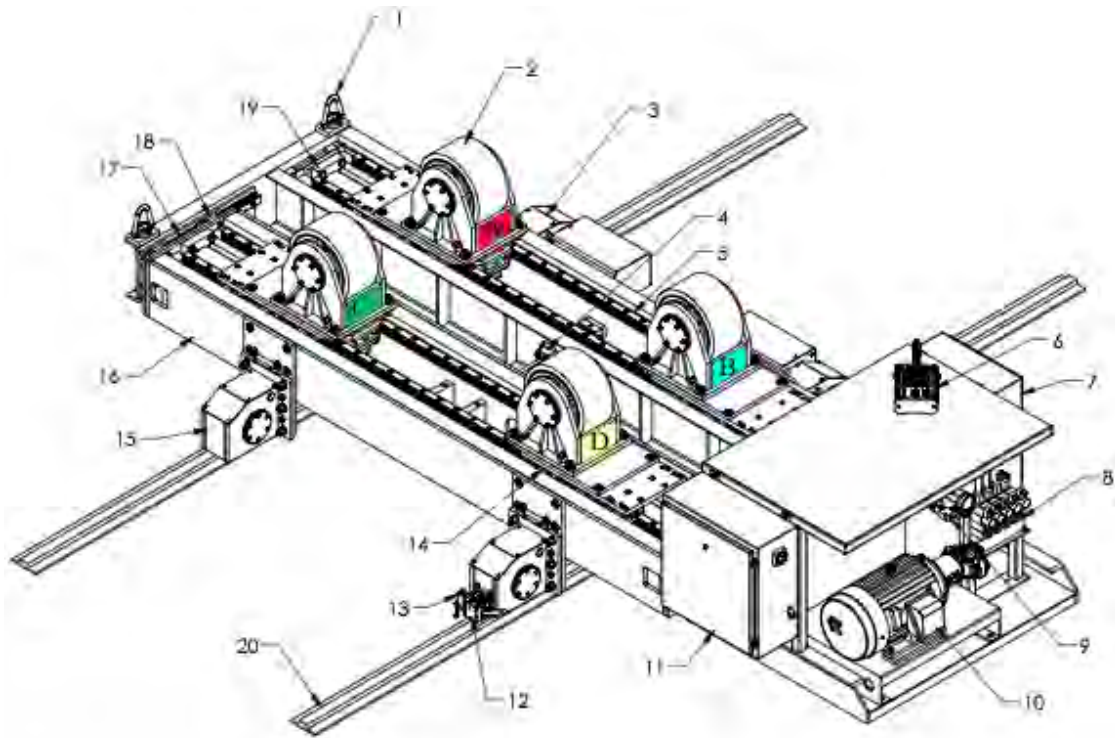
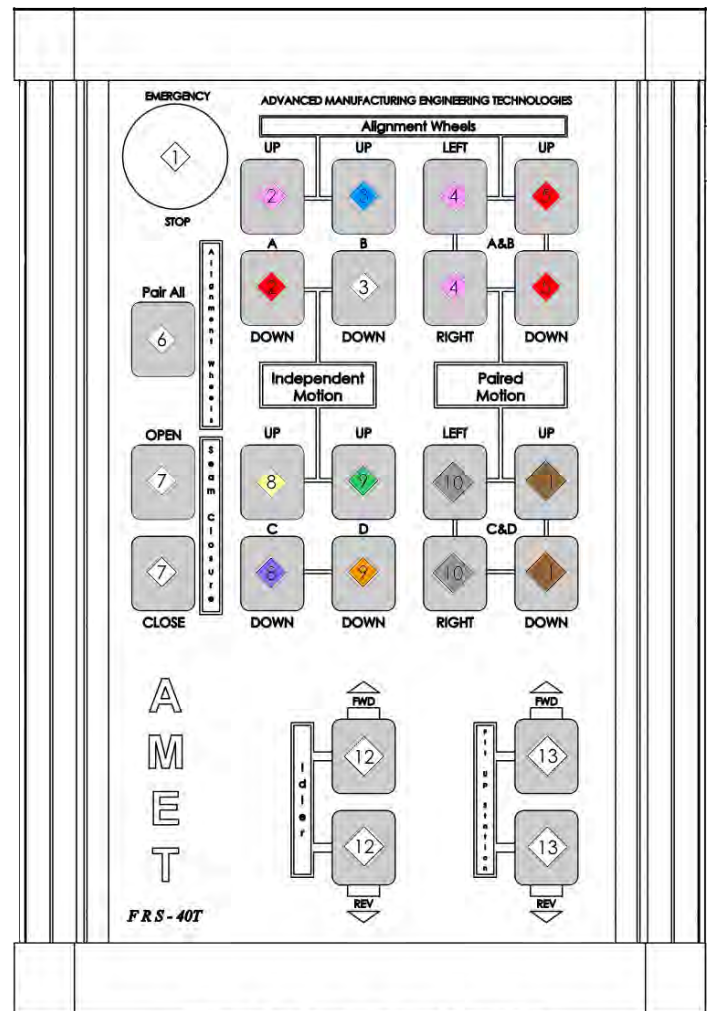

Fig 3.1 Major Components
Fig 5.2 Fit-Up Pendant (FRS-40T)
The Support Wheels (Fig 3.1 Item 2) are located on both sides of each half of the Fit-Up Station. They support and allow rotation of the part being welded. Three materials are available for the external finish of the Support Wheels. The standard coating is Polyurethane, but rubber and bare steel are also available upon request.
The Transverse Drives (Fig 3.1 Item 3) have powered motors that propel the Fit-Up Station along the Transverse Track to accommodate various part lengths. They may also be used for transporting the weld piece closer to and farther from the weld head.
The Hydraulic Cylinder (Fig 3.1 Item 4) moves the C and D half of the Fit-Up Station closer to or farther from the A and B half. This allows the two loaded weld cans to be butted up together.
The Linear Rails (Fig 3.1 Item 5) make up the track upon which the support wheels travel. The support wheels can move either closer together, farther apart, or paired together.
The Fit-Up Pendant (Fig 3.1 Item 6) is the control center of the Fit-Up Station. All movement is managed from this pendant. Instructions for use are in Section 5.
The Hydraulic Control Box (Fig 3.1 Item 7) is the point that all hydraulic logic passes. The user should not have to access this box unless catastrophic failure has occurred. At this point, entrance must be done with assistance from an AMET representative.
The Hydraulic Manifold Assembly (Fig 3.1 Item 8) regulates the hydraulic pressure going through the system.
The Hydraulic Solenoid Valves (Fig 3.1 Item 9) engage each piston in the hydraulic system. Every piston throughout the Fit-Up Station is controlled with one of these solenoid valves.
The Hydraulic Power Unit (Fig 3.1 Item 10) pumps the hydraulic fluid throughout the hydraulic system in the Fit-Up Station.
The Power Distribution Enclosure (Fig 3.1 Item 11) includes all the wiring for the electrical system including the fuses.
The Travel Lock Brake (Fig 3.1 Item 12) ensures that the Transverse Cart will remain stationary. In order to move the Cart along the Transverse track the Brake must be released.
The Limit Switch (Fig 3.1 Item 13) is to prevent collision with Turning Rolls that may be on the same Transverse track. When the Limit Switch is engaged the Transverse Drives stop movement.
The Linear Bearings (Fig 3.1 Item 14) allow the Support Wheels to glide smoothly on the Linear Rails.
The Transverse Wheels (Fig 3.1 Item 15) provide support opposite the Transverse Drives to allow the Fit-Up Station to travel along the Transverse Track.
The Transverse Cart (Fig 3.1 Item 16) refers to the entire Fit-Up Station. The Cart moves along the Transverse Track in order to accommodate various lengths of parts, and to allow transportation of weld parts while they are loaded on the Cart and another turning roll.
The Linear Rail (Fig 3.1 Item 17) makes up the track that the C and D portion of the Fit-Up Station travels on.
The Linear Bearings (Fig 3.1 Item 18) are located in the Linear Rail and allow for a smooth travel for the C and D portion of the Fit-Up Station.
The Hydraulic Cylinder (Fig 3.1 Item 19) extends and retracts the Support Wheel it is attached to in order to bring the Support Wheels closer together or farther apart or move them in paired motion.
The Transverse Track (Fig 3.1 Item 20) makes up the path that the Fit-Up Station can move laterally upon.
Place the hooks of heavy-duty straps on each of the four (4) Lift Rings (Fig 3.1 Item 1). Make sure the load is balanced when lifting!
The setscrews on the Hydraulic Manifold Assembly (Fig 3.1 Item 8) control the Support Wheel speed. Extend Speed is controlled from the front setscrew and Retract Speed is controlled from the setscrew on the back of the manifold assembly.
By using the Independent Motion buttons (Fig 5.2 Items 2,3,8,9) only the Support Wheel labeled will move. For example: If button 5.2. Item 2.UP is pressed Support Wheel A (Fig 3.1 Item A) will travel toward the center of the Fit-Up Station, until the button is released, to bring the can up.
Paired Motion moves both Support Wheels on each half at the same time in the designated direction. For example: If Button 5.2 Item 10.LEFT is pressed Support Wheels C and D (Fig 3.1 Items C & D) will both travel left at the same rate until the button is released.
All movement on the Fit-Up Station is controlled with the Fit-Up Pendant (Fig 5.2).
The E-Stop Button (Fig 5.2 Item 1) immediately cuts power to all motors to stop movement and avoid damage to persons
The Pair All button (Fig 5.2 Item 6) brings all four (4) Support Wheels to the approximate center of their track. This streamlines the process of changing from a large part to a small part or vice versa.
The Seam Closure buttons (Fig 5.2 Item 7) bring the two halves of the Fit-Up Station closer together or farther apart. For example: If two cans are loaded and need to be brought together, the user may press the Close button (Fig 5.2 Item 7.CLOSE) to butt them against one another.
The Fit-Up Pendant is can control the movement of transverse drives connected to both the Fit-Up Station as well as a set of idle turning rolls. The Idler (Fig 5.2 Item 12) and Fit –Up Station buttons (Fig 5.2 Item 13) control the movement of the transverse drives indicated. Pressing the FWD button in either section drives the cart toward the manipulator, while pressing REV drives it away from the manipulator.